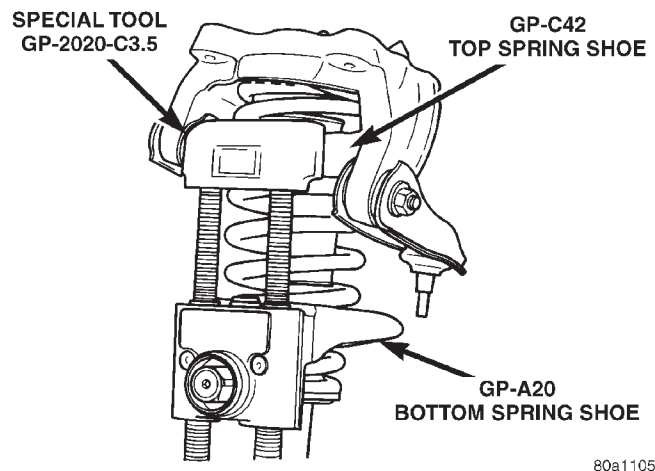

Fig. 86 Compressing Shock Absorber Spring
(3) Compress shock absorber coil spring, using Professional Services Equipment Spring Compressor, GP-2020-C3.5 fitted with the GP-C42 upper spring shoe and GP-A20 lower spring shoe (Fig. 86).